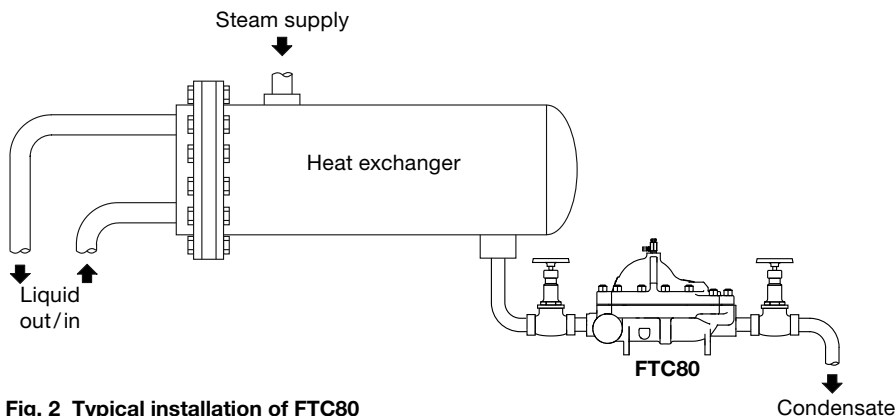

Fig. 2 Typical installation of FTC80
- 3.3** Determine the correct installation situation and direction of fluid flow. The flow direction will be clearly marked on the trap cover. A typical installation is shown in Figure 2. Where the trap discharges into a closed return system a non-return valve should be specified downstream.
- 3.6** The trap should be fitted as close to the outlet of the plant to be drained as possible otherwise the trap can steam lock and this could lead to the system becoming waterlogged. The trap should be fitted below the outlet, with a small drop leg immediately preceding the trap, typically 150 mm (6"). See Figure 2. If no drop leg is allowed for then it may be possible (under low load conditions) for steam to flow over the condensate in the bottom of the pipe and reach the trap.